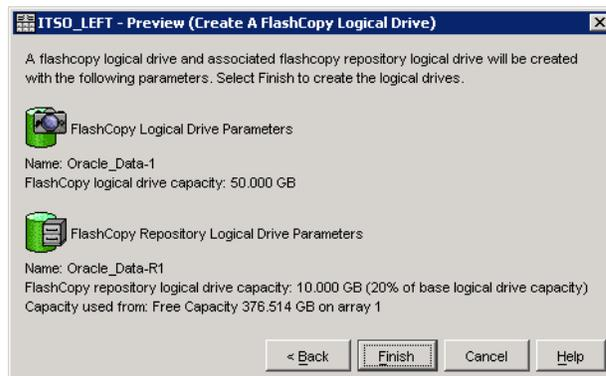

Figure 7-9 Create FlashCopy Logical Drive wizard: Preview
- c. The Create FlashCopy Wizard Preview panel is displayed (Figure 7-9). It displays components associated with the FlashCopy. Review the information and click **Finish**.